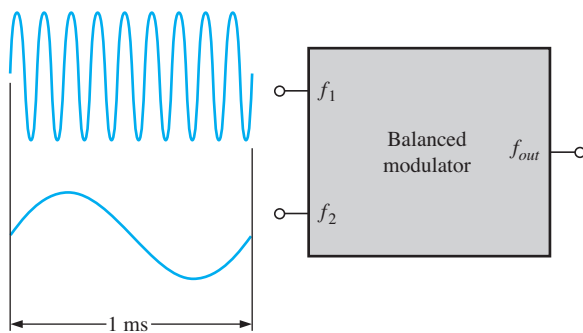

FIGURE 13-52
11. What are the frequencies on the output of the balanced modulator in Figure 13-52?